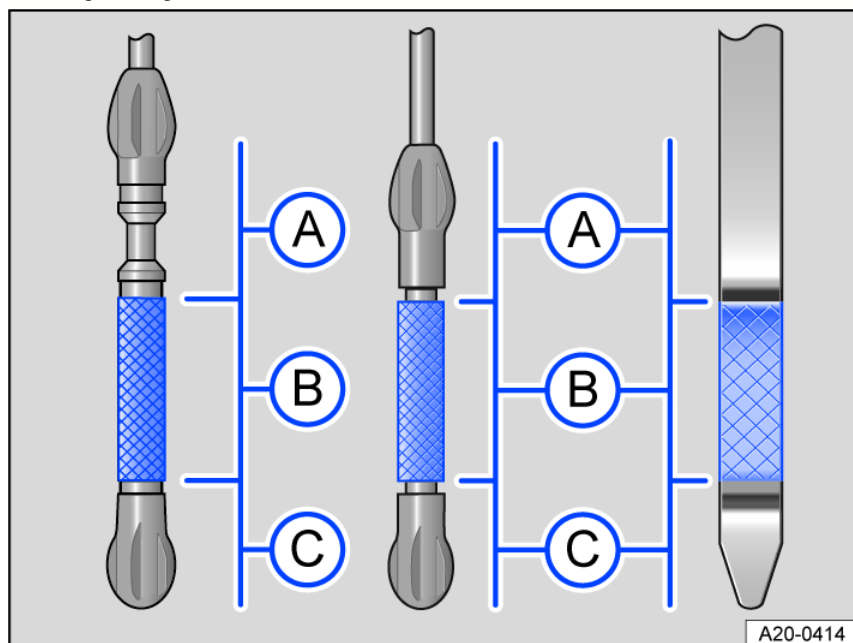

Fig. 191 Engine oil level markings on the oil dipstick (versions).
3. Remove the dipstick again and read the oil level on the dipstick as described below *fig. 191*:
When you are done adding oil, the oil level should be in the center of area *fig. 191* **B**. The engine oil level must not be in the area *fig. 191* **A**.
5. If you accidentally add too much engine oil and the engine oil level is in area *fig. 191* **A**, do not start the engine ⇒ . Contact an authorized Volkswagen dealer or authorized Volkswagen Service Facility for assistance.